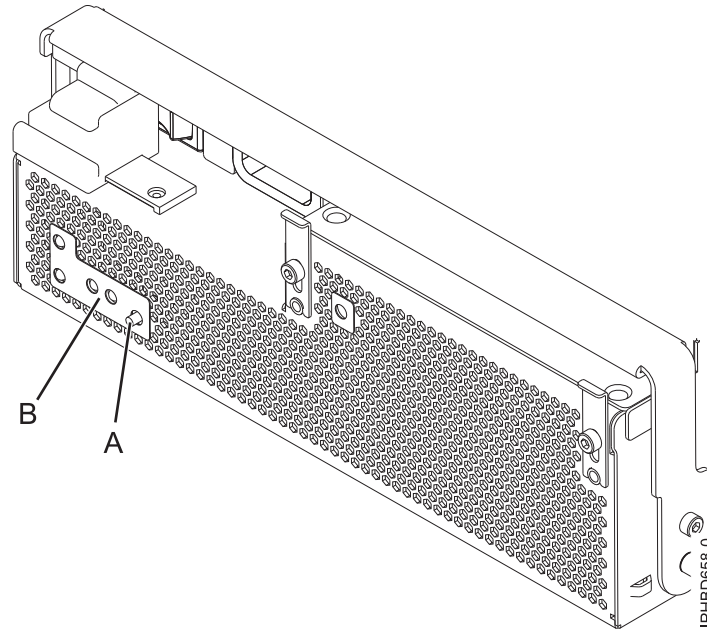
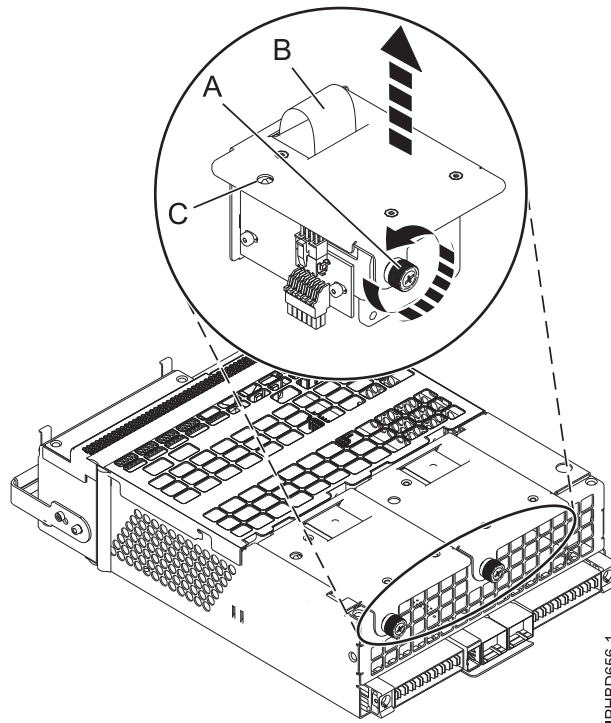

Figure 10. Fan fault LED and fan identify button
Figure 11. Removing a fan
Note: If a fan fails, the amber fan fault LED (B) on the front of the Offline Converter Assembly (OCA), as shown in Figure 10 on page 12, is on solid.
- a. To identify the failing fan, press the fan identify button (A), as shown in Figure 10. An amber left or right fan-fault LED (C) on solid, as shown in Figure 11, indicates the faulty fan.
- b. Loosen the thumbscrew (A) that holds the fan in the power-supply assembly, as shown in Figure 11.
- c. Use the recessed fan handle **(B)** to lift the fan from the power-supply assembly, as shown in Figure 11 on page 12.